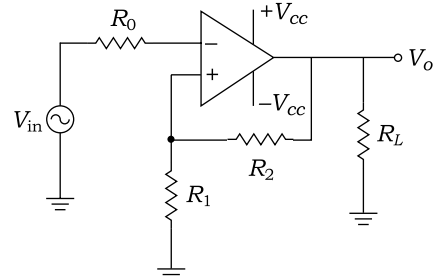

Fig. 7.115
40. Explain the operation of an inverting Schmitt trigger circuit. For the inverting Schmitt trigger circuit shown in Fig. 7.115, calculate R_z if $R_1 = 10 \text{ k}\Omega$ and hysteresis voltage width = 4 V . Assume saturation voltage to be $+14 \text{ V}$ and -14 V .